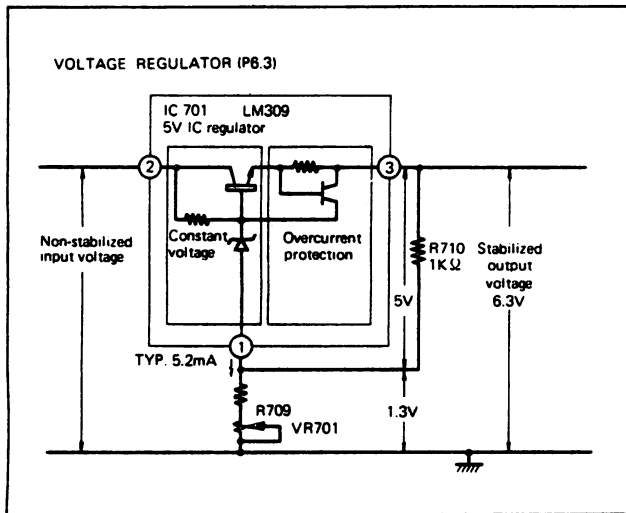

Figure 4-9 Voltage Regulator P6.3
a. Voltage regulator P6.3 (Figure 4-9)